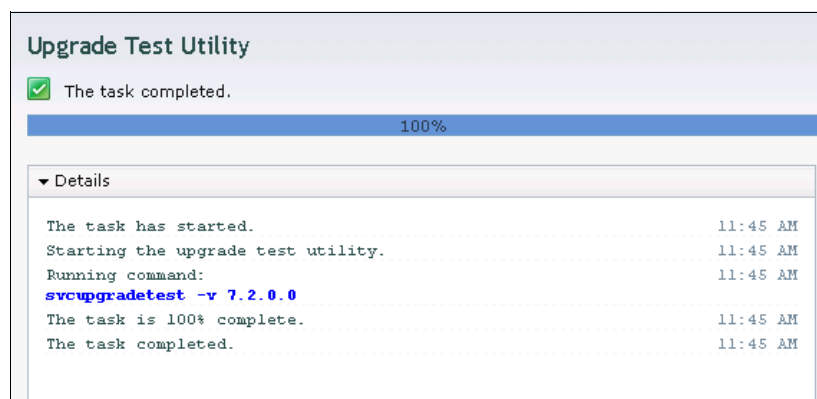

Figure 13-14 Results of the Test Utility
7. Click **Next**. You are redirected to the window shown in Figure 13-14. At this time, the Upgrade Test Utility runs and you are able to see the suggested actions, if any, in the window shown in Figure 13-14.